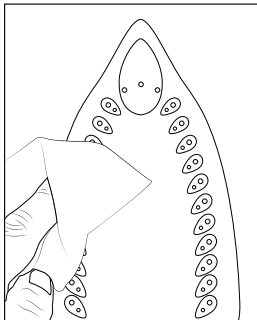

Fig. 1
- ▶ Note that you must release the transport lock on the appliance before using it for the first time (see also section **Transport**). To do so, move the lock switch ④ on the iron in the direction of the open lock symbol . The iron can now be removed from the stand ⑥.
- ◆ Clean the soleplate ⑧ using a damp cloth (see fig. 1).